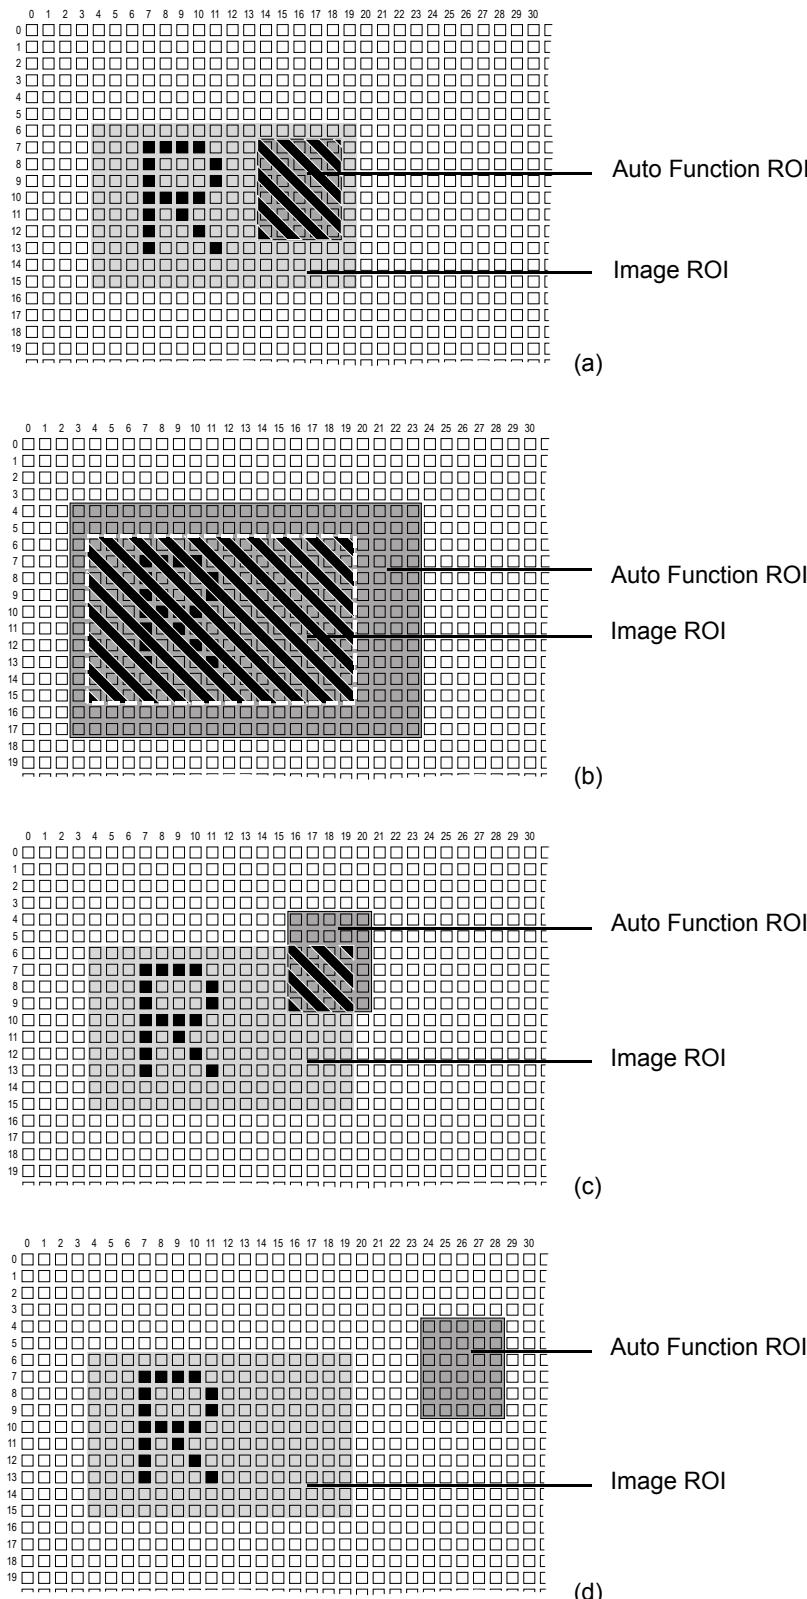

Fig. 111: Various Degrees of Overlap Between the Auto Function ROI and the Image ROI
Different degrees of overlap are illustrated in Figure 111. The hatched areas in the figure indicate areas of overlap.
- If the Auto Function ROI is completely included in the Image ROI (see (a) in Figure 111), the pixel data from the Auto Function ROI will be used to control the image property.
- If the Image ROI is completely included in the Auto Function ROI (see (b) in Figure 111), only the pixel data from the Image ROI will be used to control the image property.
- If the Image ROI only partially overlaps the Auto Function ROI (see (c) in Figure 111), only the pixel data from the area of partial overlap will be used to control the image property.
- If the Auto Function ROI does not overlap the Image ROI (see (d) in Figure 111), the Auto Function will **not** or only to a **limited** degree control the image property. For details, see the sections below, describing the individual auto functions.